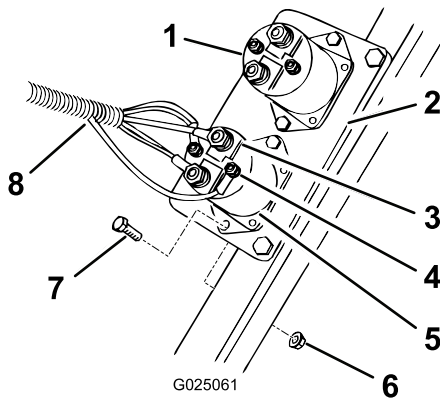

Figure 7
2. Install the solenoid on the existing plate using 2 bolts (#10 x 3/4 inch) and 2 nuts (#10) as shown in Figure 7.